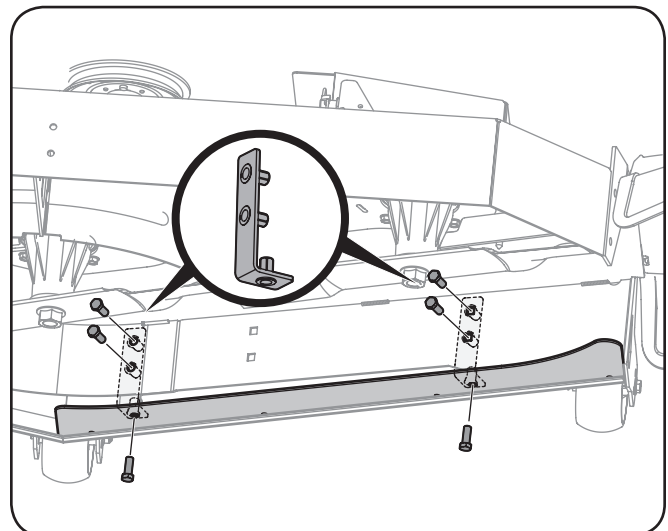

Figure 4-14
- Locate the two baffle mounting brackets included in hardware pack 689-00340, and position the brackets INSIDE of the deck, lining up the two holes on the front of the deck as shown in Figure 4-14